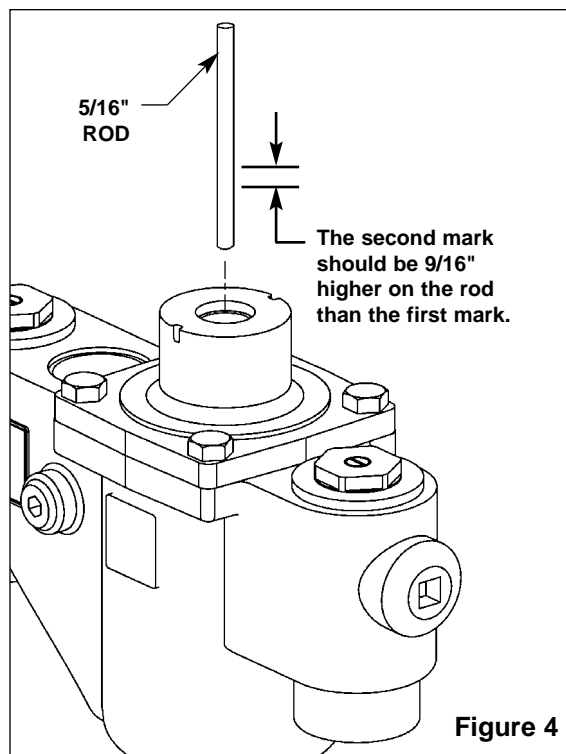

Figure 4
2. Insert a 5/16" dia. rod into the valve and into the piston overheating chamber. Mark the length of the rod inside the valve (see Figure 4).
3. Push the rod until the piston stops and mark the new length of the dowel (the new length should be approximately 9/16" longer than the original length) (see Figure 4). If the length of the dowel is not as it should be, the piston is not moving freely and needs to be cleaned along with the piston liner. Clean the piston and liner following the method outlined below: